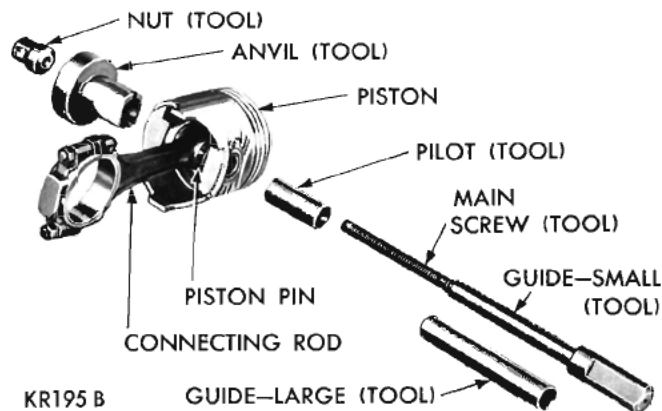
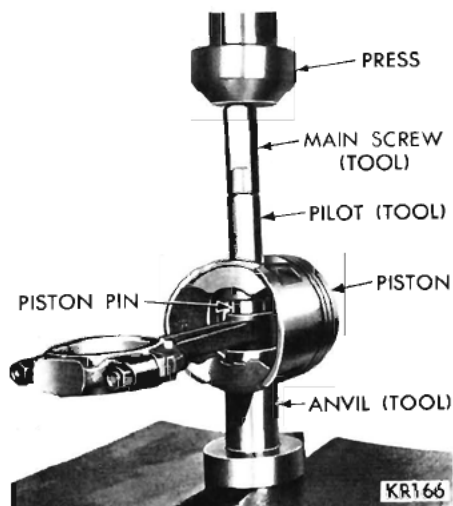

Fig. 106—Tool Arrangement for Removing Piston Pin Tool C-3684
Fig. 107—Removing Piston Pin Tool C-3684
(1) Arrange Tool C-3684 parts for the removal of piston pin, as shown in Figure 106.
(2) Install the pilot on the main screw.
(3) Install the screw through the piston pin.
(4) Install the anvil over the threaded end of the main screw with the small end of the anvil against the piston boss.
(5) Install nut loosely on the main screw and place the assembly on a press, as shown in Figure 107.
(6) Press the piston pin out of the connecting rod.
(7) Remove the tool from the piston.
(10) Remove the tool and arrange tool parts and piston assembly in the same manner, as shown in Figure 106.